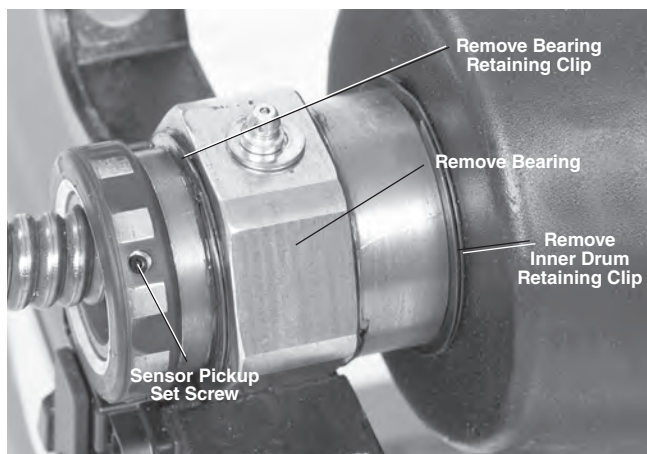

Figure 29 – Remove Retaining Ring and Inner Drum
4. Remove the outer retaining clip from the guide tube shaft (*Figure 29*). Slide bearing off the shaft.
9. Push the end of the pigtail through guide tube. Install inner drum, bearing and sensor ring by reversing *steps 3, 4 and 5*. Make sure everything is properly installed per *Figure 29* and secure.